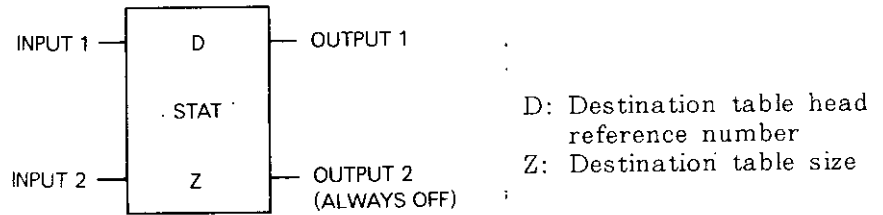

Fig. 5.59 STAT General Form
- Fig. 5.59 shows the form of system status.